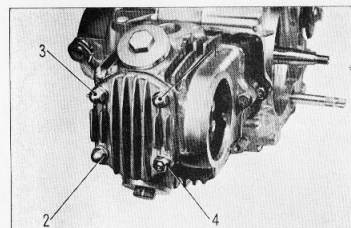
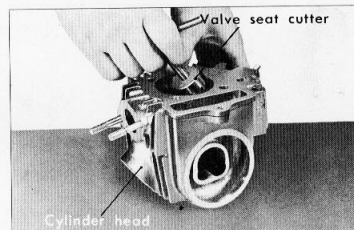

Figure 3-22. Torquing sequence of cylinder head
Figure 3-24. Reworking valve seat
- (2) When torquing the cylinder head, tighten the nuts in the diagonal sequence to prevent pressure leaks. Refer to Fig. 3.24 for torquing procedure. (Fig. 3-22)
- (3) In the same procedure as in the disassembly, position the woodruff keyway in the crankshaft, and the "O" mark on the cam sprocket in line with the piston and install.
- (4) Assemble the right and left cylinder head side cover.